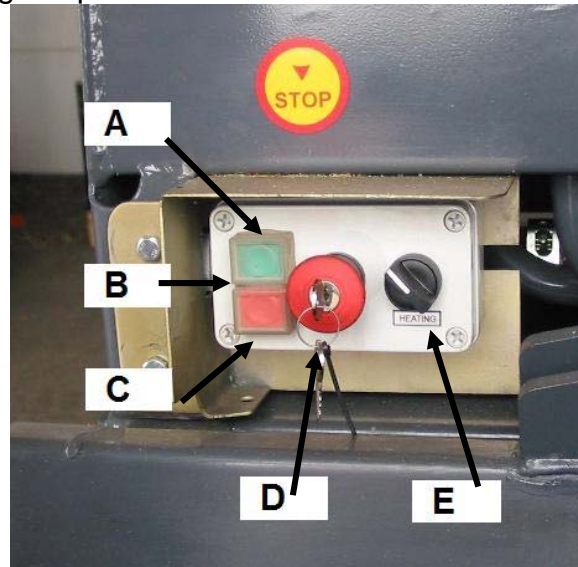

Fig. 8
3.8 Starting the electric motor using the Y/D starter, Fig. 8
3.9 Emergency stopping of an electrically powered machine, Fig. 8
A 300 W electric heater carpet with adhesive tape attachment and a thermostat is available as an option for the hydraulic oil tank. The starter comes as standard equipped with an operating switch for the heater, Fig 8 E. Heating the oil for 1-2 hours is sufficient to enable smooth starting.